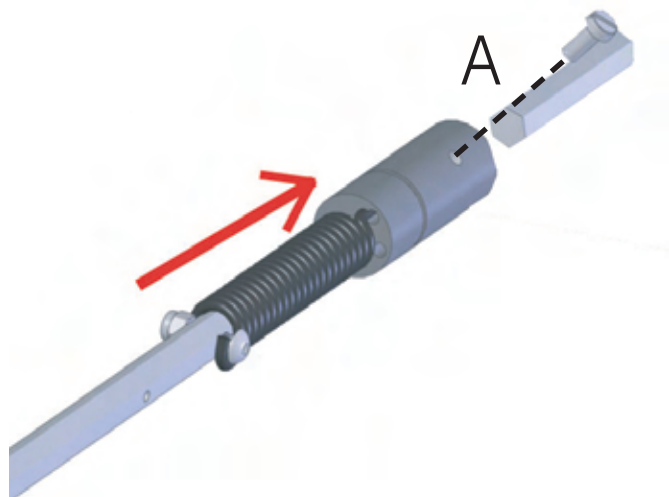

Fig. 8
- 3) Fit the rod on the motor frame and firmly tighten screw A. (Fig.8)